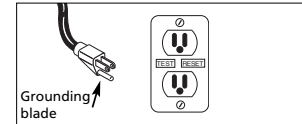

Figure 1
2. It is strongly recommended that this unit is plugged into a Ground Fault Circuit Interrupter (GFCI) (See Figure 1). Consult a local electrician for installation and availability.